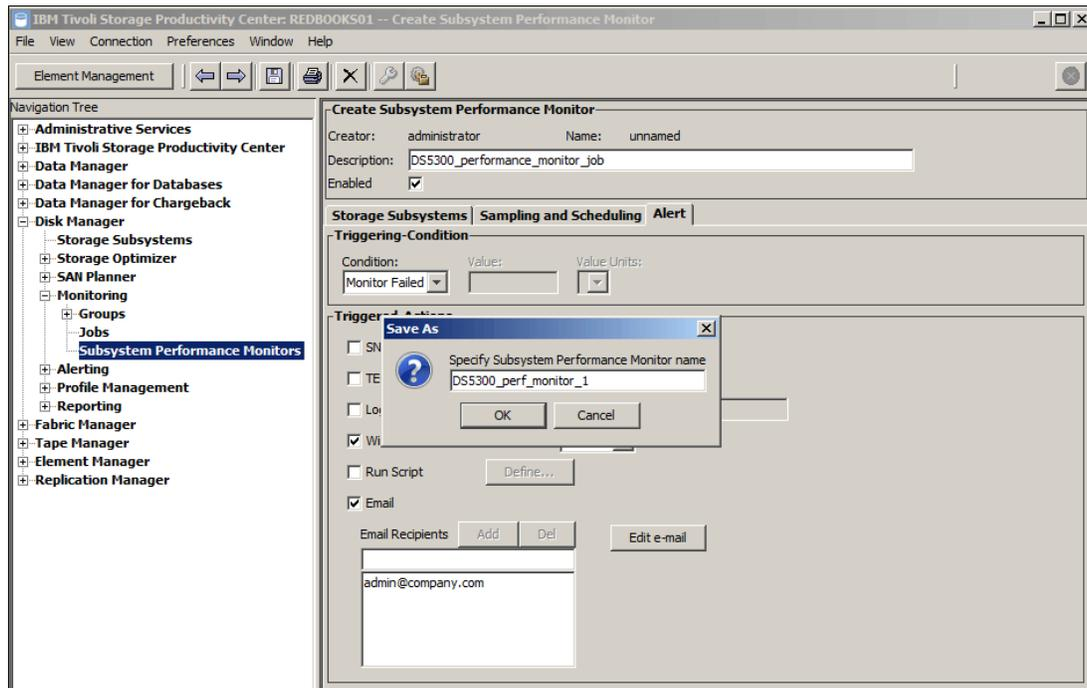

Figure 9-34 Save Performance Monitor job
- Select **File** → **Save** or use the **Save** icon on the taskbar to save the job and specify the job name when prompted, as shown in Figure 9-34.